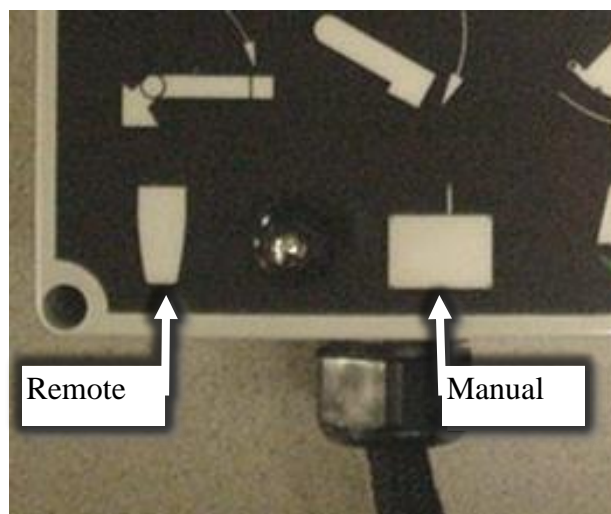
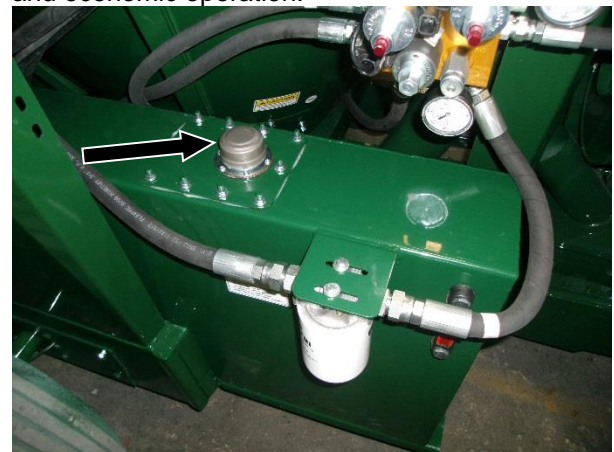

Figure 86 – Mode Switch Operation Settings for Complete Control Box with Internal Receiver.
Figure 99 – Hydraulic Reservoir Cap (see Arrow)
7165 Grinder Mixer units equipped with the Complete Control Box (see Figure 99) need to flip the **Mode Switch** at the lower left hand corner of the box (see Figure 86) to change control mode settings. Flip the switch to the **Left** for **Remote** control and to the **Right** to run the hydraulics **Manually** from the box.
When adding hydraulic oil, back blow through the filler cap with low pressure air. If the filler screen is dirty, remove the ten (10) – 5/16” whiz nuts on the access cover and flush screen with solvent and allow too dry before installing. Prior to replacing the access cover, remove the old gasket material from the cover and tank, then replace gasket material using silicone blue (see Figure 99).